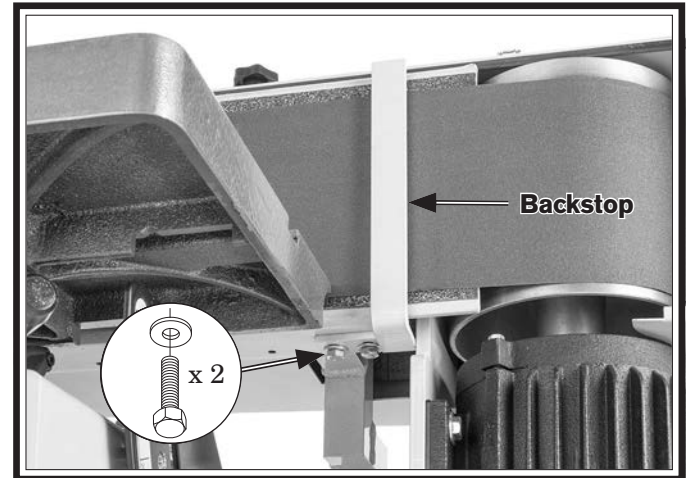

Figure 22. Backstop installed.
- Attach backstop to sander with (2) $\frac{5}{16}$ "-18 x 1" hex bolts and $\frac{5}{16}$ " flat washers (see **Figure 22**).